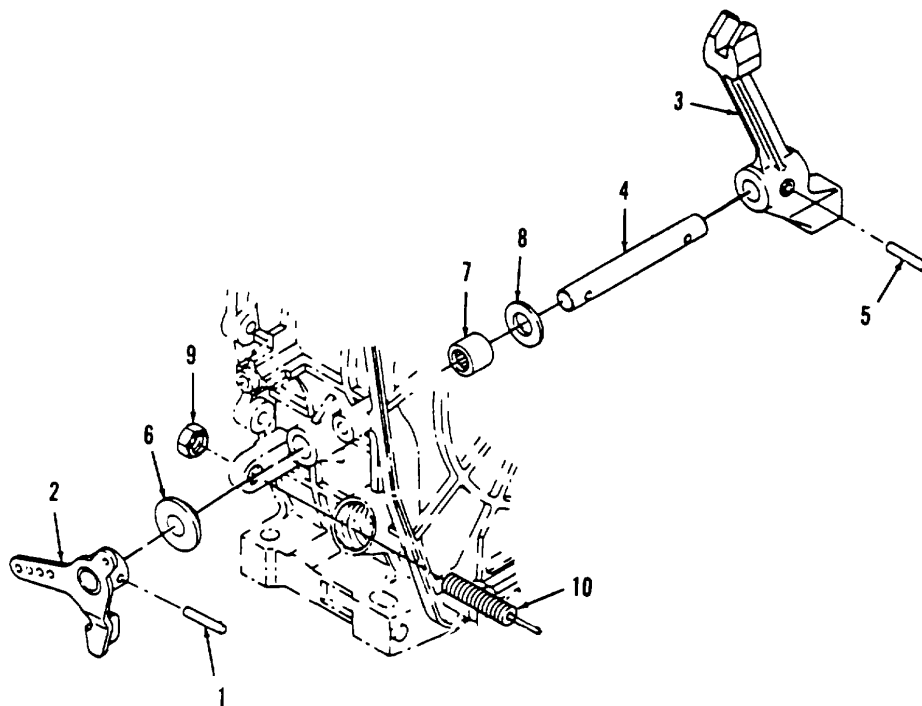
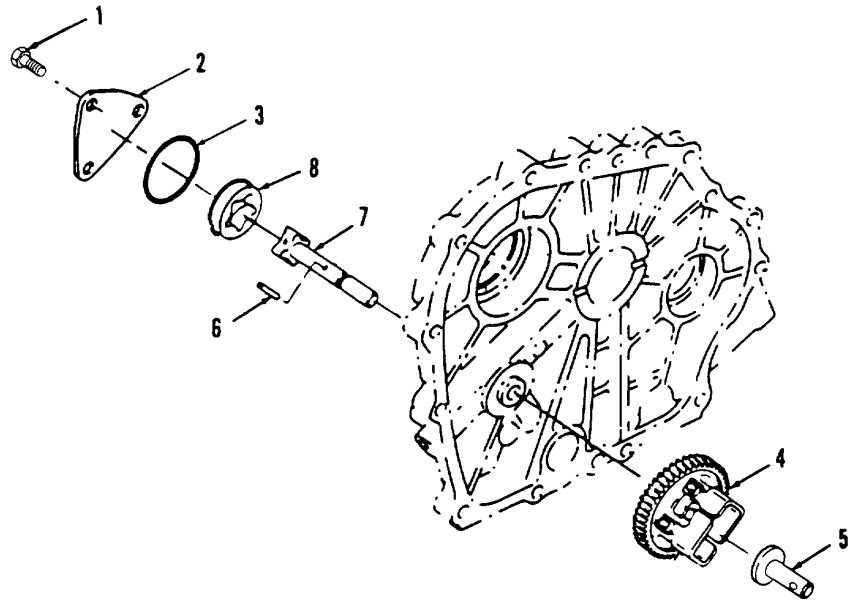

Figure 6-5. Governor Assembly Removal.
Figure 6-6. Lube Oil Pump Repair and Replacement.
a. Removal.**(1) Governor Assembly Removal.** (Refer to Figure 6-5).
- (a) Remove governor lever taper pin (1).
- (b) Remove governor lever (2).
- (c) Remove governor control arm (3) and governor shaft (4) from inside the engine.
- (d) Remove governor control arm lever taper pin (5).
- (e) Remove governor control arm (3) from the governor shaft (4).
- (f) Remove thrust bushing (6).
- (g) Remove needle bearing (7) and washer (8).
- (h) Remove nut (9) from fuel limiting adjustment (10).
- (i) Remove fuel limiting adjustment (10) from crankcase.
(2) Lube Oil Pump Removal. (Refer to Figure 6-6).
- (a) Remove three lube oil pump cover bolts (1) holding lube oil pump cover (2).
- (b) Remove lube oil pump cover (2) and O-ring (3). Discard O-ring.
- (d) Grasp hold of the plastic gear (4) and carefully pull spindle (5) from lube oil pump shaft.
- (e) Remove drive pin (6).
- (f) Remove lube oil pump shaft (7) and outer rotor (8) from crankcase cover.
(c) Insert spindle (5) into the weights (6) on the governor gear assembly (7), then push the governor gear assembly (7) onto the oil pump shaft (4). Ensure that gear is firmly engaged onto pin (3). (d) (Refer to Figure 6-6). Install new O-ring (3) onto crankcase cover and secure oil pump cover (2) with 3 bolts (1).
(2) Governor Assembly. (Refer to Figure 6-5).